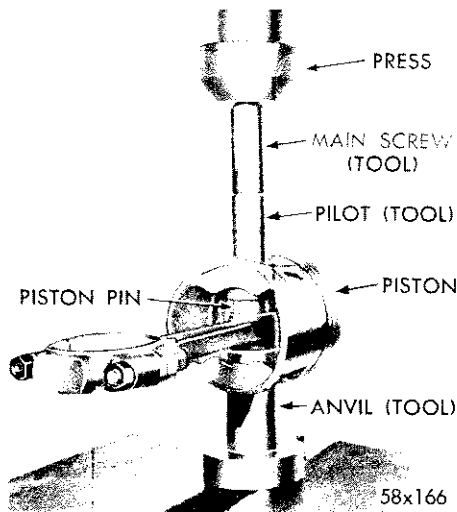

Fig. 42—Removing Piston Pin from Connecting Rod
(5) Install nut loosely on the main screw and place the assembly on a press, as shown in Figure 42.
(6) Press the piston pin out of connecting rod.
(7) Remove the tool from the piston.